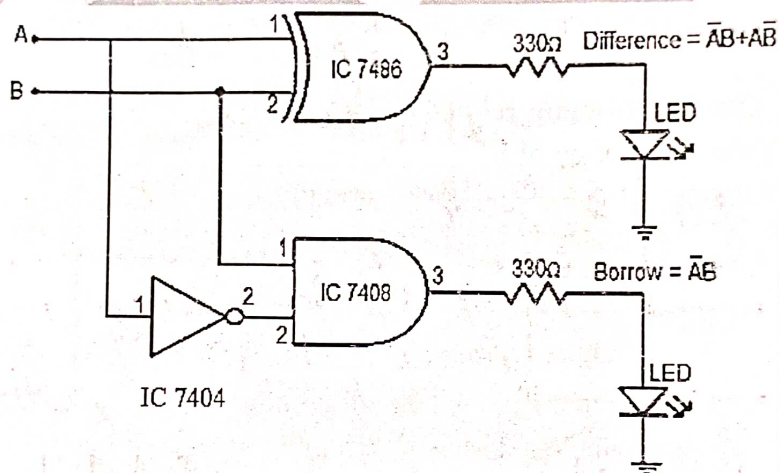

Fig 7.3: Half subtractor Circuit Diagram
3. Make the connection as per figure 7.3.